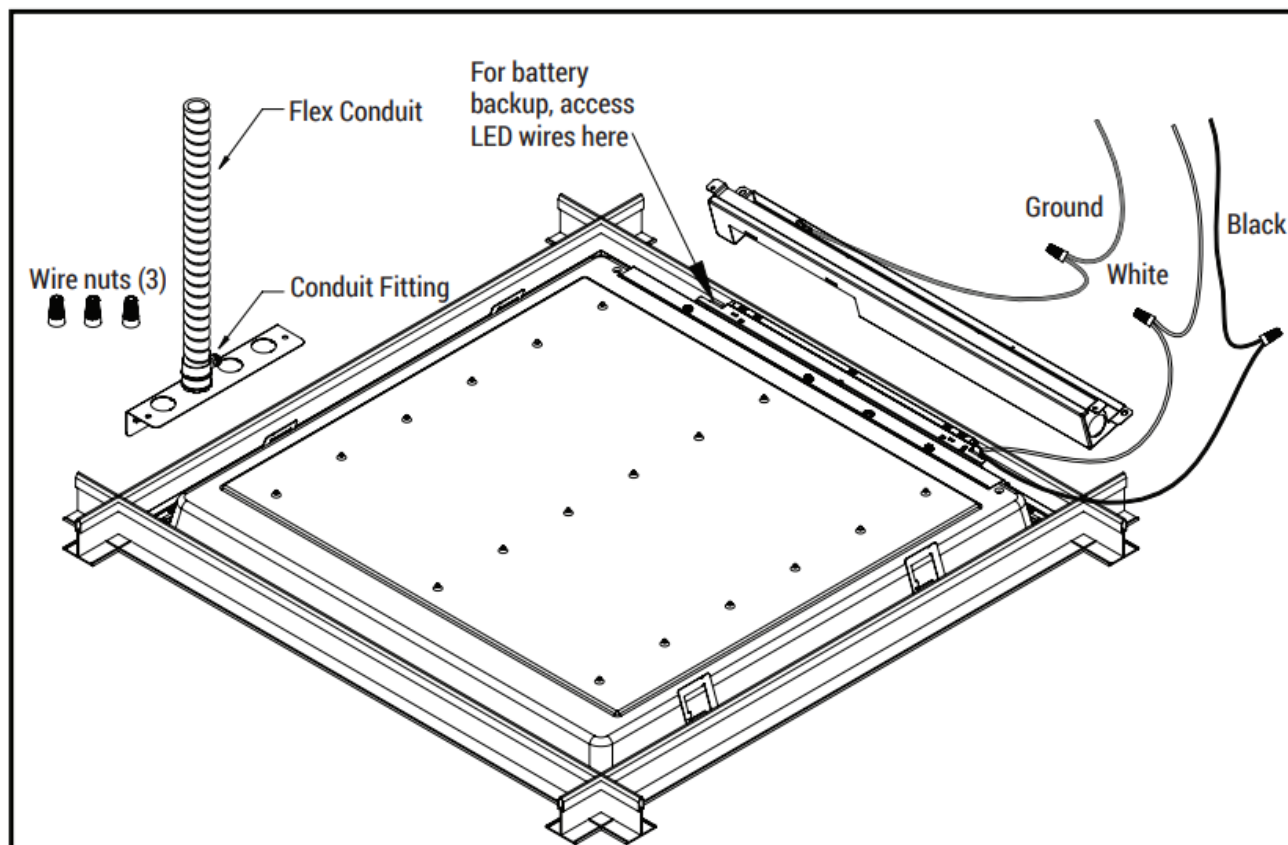

Figure 4.
7. Use open knockout to bring in supply wire. Using the Wire Nuts – (3 pcs. 14 AWG & 2 pcs 8 AWG) attach the ground wire with the supply ground wire, the black wire to the black supply wire, and the white (common) wire to the white supply wire (Fig. 4)